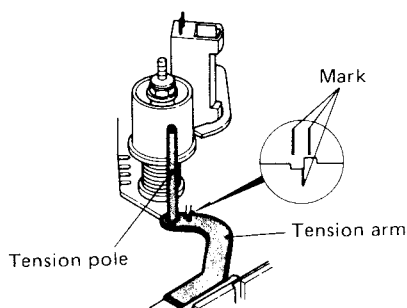

Fig. 4-1
- 4) Make sure that the tension pole is within the range shown in Fig. 4-1.